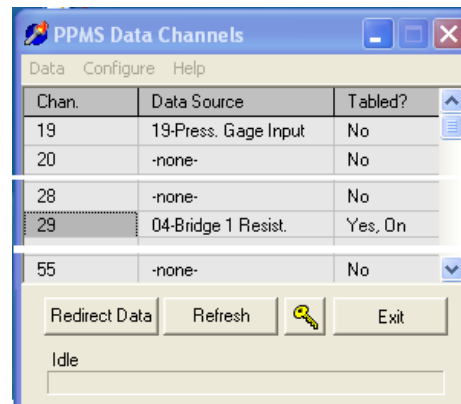

Figure 13. Tabled? column when a calibration table has been mapped to Channel 29 and activated
- Verify that the **Tabled?** column of the **PPMS Data Channels** dialog says “Yes, On”, indicating that there is a calibration table mapped to Channel 29 and it has been activated (Figure 13). If the column does not show that the table is On, click in the **Use the table...** check box and click on the **Apply** button again.